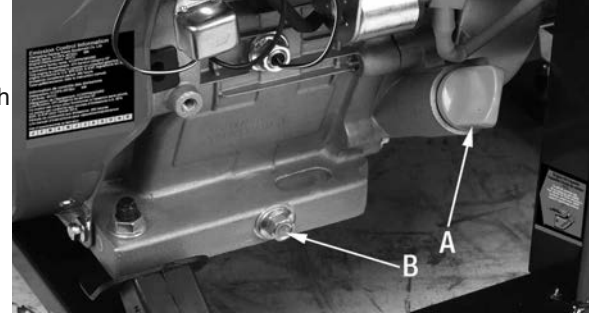

Figure 15
- 1) Loosen the oil gauge dipstick (A) Fig.15.
- 2) Place an oil pan underneath drain hex. bolt (B), remove hex. bolt (B) and drain oil.
- 3) Once all the oil has completely drained, retighten the hex. bolt (B).